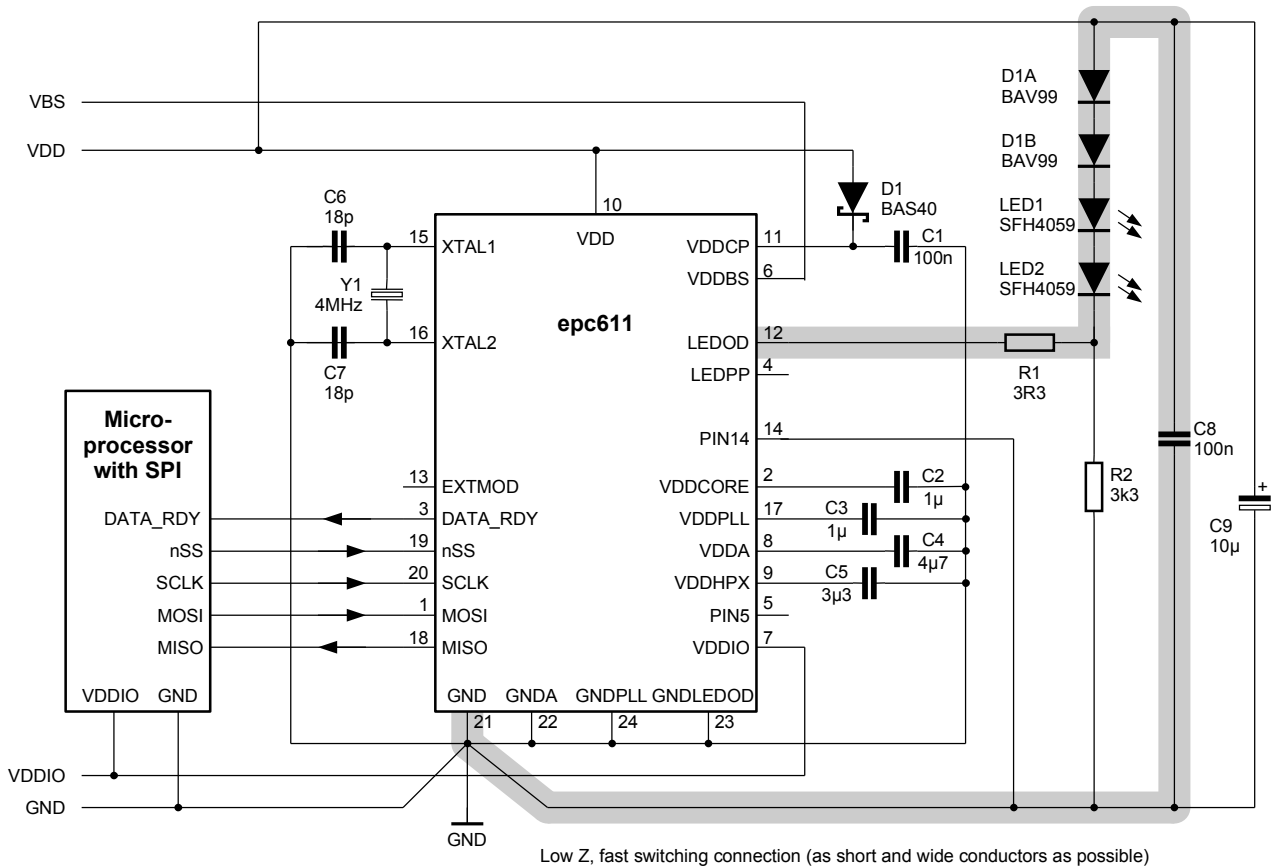

Figure 13: Typical application diagram
Table 10: Values of the components related to epc611 chip (Figure 13)
14. Pins not listed here or explained later have to be connected according to Figure 13.
1. XTAL1 and XTAL2 are the input/output pins of the internal oscillator. They can be used either with a 4.0 MHz quartz crystal or resonator. The capacitor values C6 and C7 should follow the recommendation in the datasheet of the quartz or resonator (refer to Figure 13).
LEDOD is an open-drain nMOS FET driver output. This allows direct drive of illumination sources e.g. LD or LED. When the LED driver is active (ON), the LED current flows through the resistor R1 into the LEDOD pin, through the on-chip driver and comes out of the chip on the VSSLED ground pin (Figure 13).